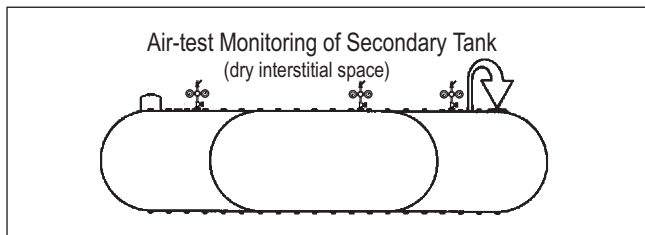

FIGURE 4-4
4.5.6. Use the quick-disconnect assembly to pressurize the interstitial space. See *SECTION 3.6. and FIGURE 4-4*.